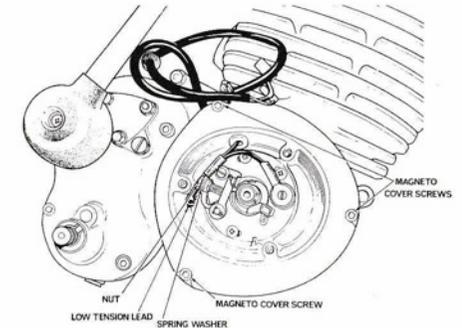

Fig 8 Showing L.T. lead position and magneto cover screws.
- 1 Disconnect the LT (low tension) lead from the contact points set by removal of one nut and spring washer (see Fig. 8).